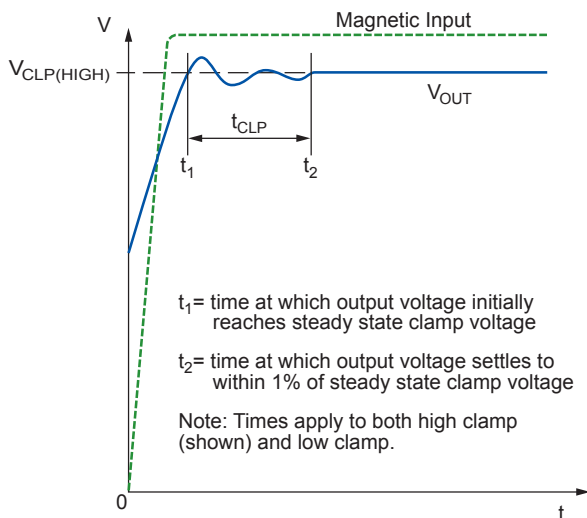

Figure 4: Delay to Clamp Definition
**Delay to Clamp ( $t_{CLP}$ )** A large magnetic input step may cause the clamp to overshoot its steady state value. The Delay to Clamp,  $t_{CLP}$ , is defined as: the time it takes for the output voltage to settle within  $\pm 1\%$  of its steady state value, after initially passing through its steady state voltage, as shown in Figure 4.